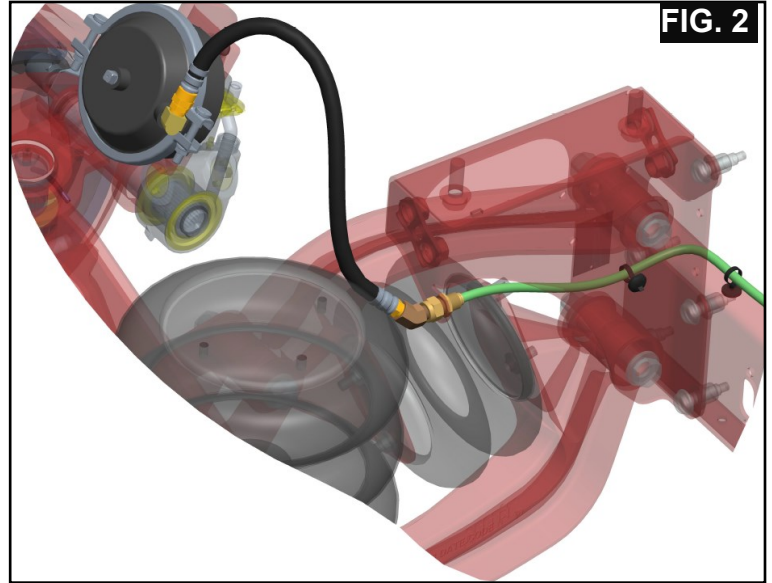

FIG. 2
- G. Assemble the bulkhead union fittings and 45 degree street elbows (Items 12 & 13) to the suspension hanger brackets. See **FIG. 2** for details.
- H. Use 3/8" green airline to connect the brake valve outputs to the bulkhead union fittings from the previous step. See **FIG. 2** for recommended routing and clipping.